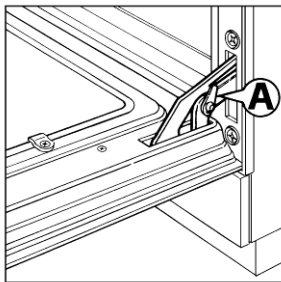

Fig. 13
- hook the rings "A" onto the hinge seats (Fig. 13);